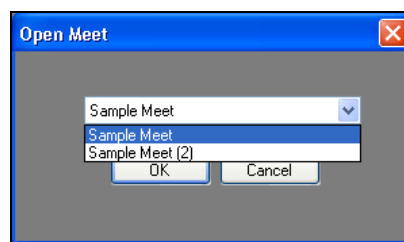

Figure 102: Open Meet Window
2. Click **Open A Meet** to select a previously created meet to open (*Figure 102*).